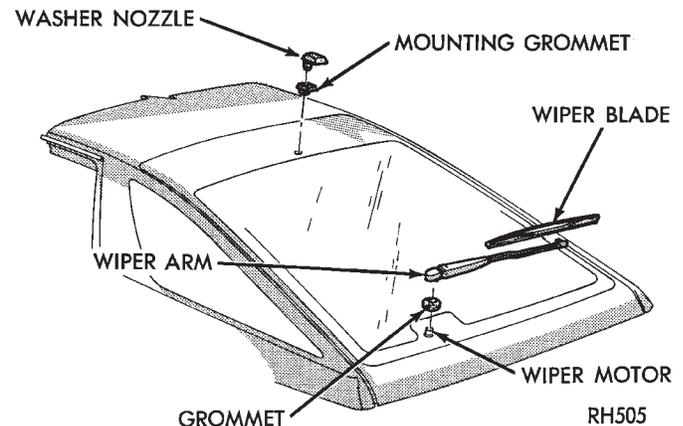

Fig. 35 Washer Nozzle
- (1) Pull washer nozzle out of mounting grommet (Fig. 35).